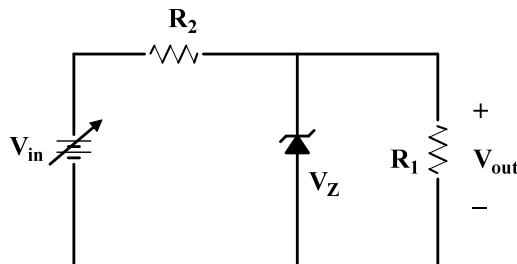

Figure 5.13 Circuit to be constructed for Part 2 LE.
- (a) Connect the circuit of Figure 5.13. Use $R_1 = 100\text{k}\Omega$, $R_2 = 10\text{k}\Omega$ and a 3.9 V (1N5228B) zener diode.